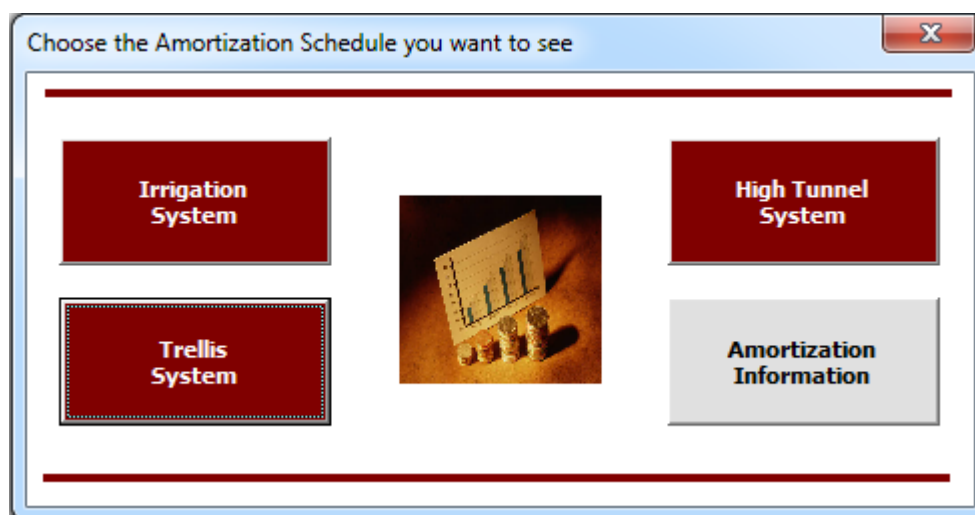

Figure 19: Amortization Schedule Results Pop-up
3.7. Amortization Schedules – this option allows you to view the amortization schedules of various systems (Figure 19). For more information about these schedules, you may click on the **Amortization Information** icon or see Section 4.5.